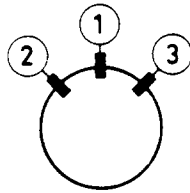

Fig. 4b
- If the deflection unit is in the correct position, then place the wedges ② and ③, remove the paper strips and firmly press the adhesive side of these wedges against the glass of the picture tubes as shown in figure 4b or 5b.